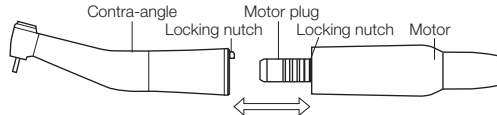

Figure 1.
2.1.2 Removal: Disassemble the motor and contra angle by gripping them and pulling them out directly, as in Figure 1.
Figure 1 Section 4.2	Separate collection for waste of electrical and electronic equipment. Do not dispose of battery in municipal waste. The symbol indicates separate collection for battery is required.